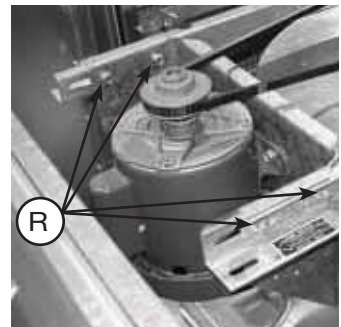

Figure 5
8. Belt tension can be adjusted by loosening four fasteners (marked “R” in Figure 5) on the drive frame. This allows the motor plate to slide on the drive frame angles for proper positioning.